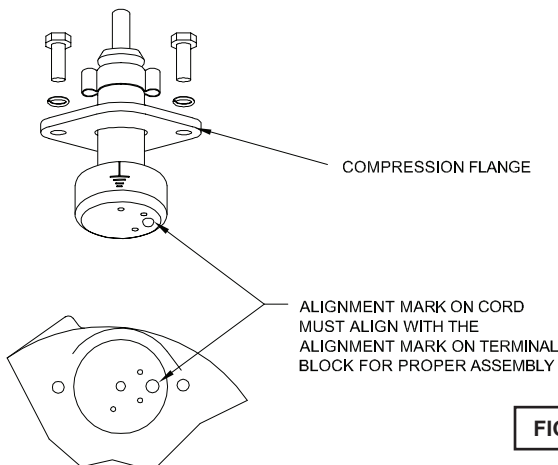

FIGURE 6
Power/Control Cable- Refill the cooling oil as outlined in paragraph F-1.4. Make wire connections as outlined in paragraph F-3.3. Insert female end of cable plug into housing bore aligning timing mark with hole in terminal block (23) (38 optional) (see Figure 6). Compress cable plug with compression flange (30a)(32a) by tightening cap screws (16) into the housing (5). Torque to 132 in-lbs.